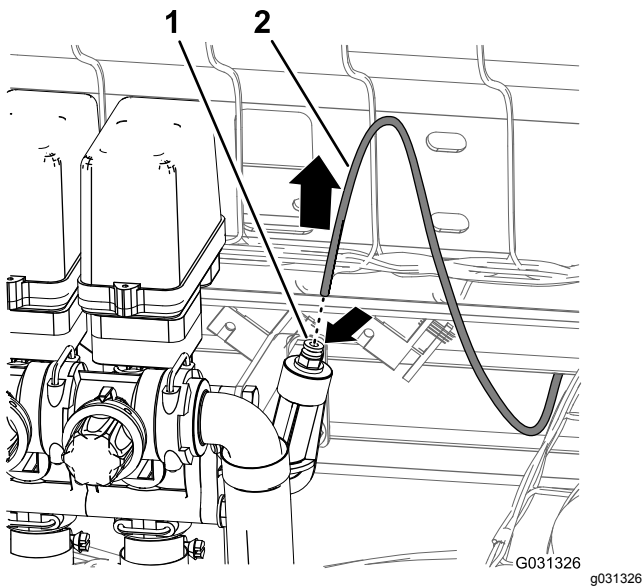

Figure 42
1. Press down the collar of the tube coupler in the pressure port at the right side of the right boom-section valve (Figure 42).
2. Pull the pressure-sense tube for the dash gauge out of the tube coupler (Figure 42).